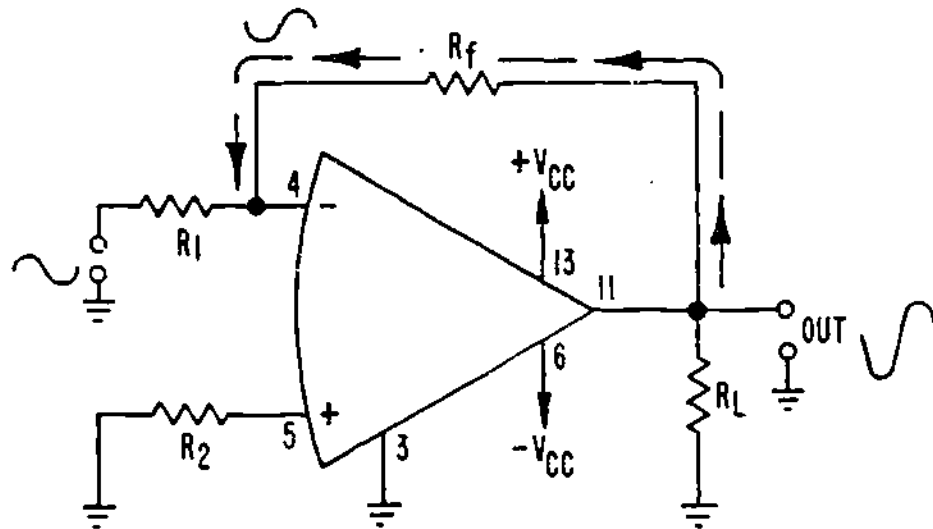

Figure 9
9. So why is this true? The reason for the small signal on the opamp input terminal can be understood by looking at Figure 9.